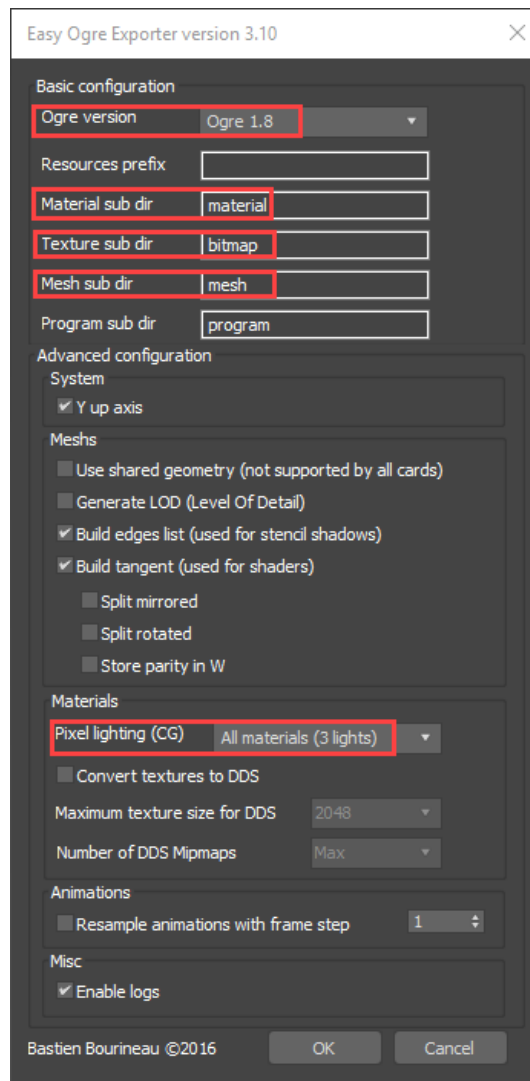

Figure 1.15. **Easy Ogre Exporter** dialog window
After that the dialog window of **Easy Ogre Exporter** appears, see Figure 1.15. Set **Basic configuration / Ogre version** to **Ogre 1.8**. The present version of **UM Scene** supports the **Ogre 1.8** only! You can leave default values in the **Material sub dir**, **Texture sub dir** and **Mesh sub dir** fields as it is shown in Figure 1.15. Materials will be saved as ***.material** file; meshes as ***.mesh** files. In the **Materials / Pixel lighting (CG)** field select **All materials (3 lights)**. All the rest fields set according to Figure 1.15.